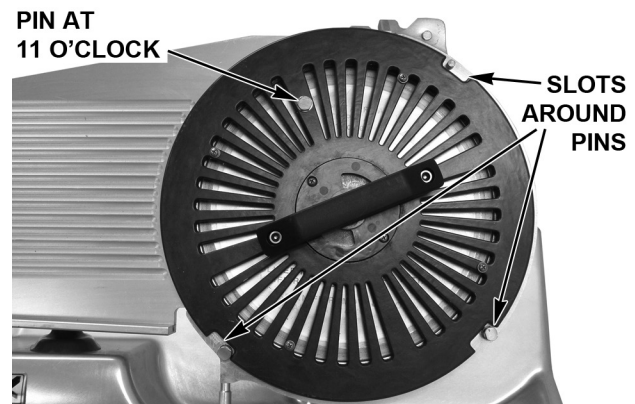

Fig. 21
- Place the Knife and Tool so the Pin on the Knife Removal Tool is at the 11 o'clock position (Fig. 21). The Slots on the Knife Removal Tool fit around the three Pins on the Ring Guard (Fig. 21).